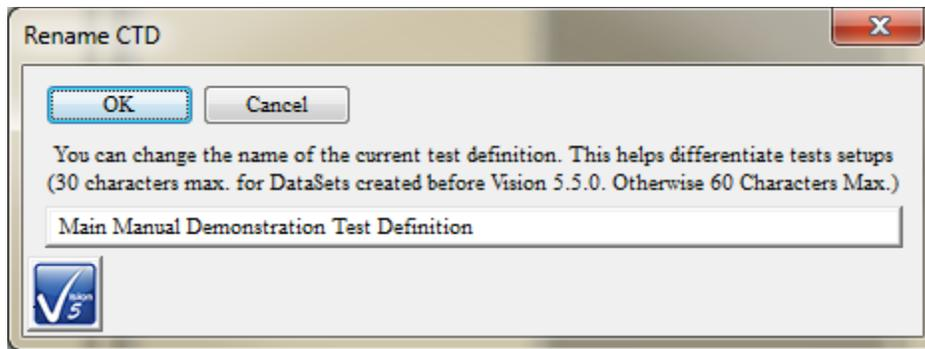

Figure 4 – CTD Naming/Renaming Dialog.
3. **Current Test Definition (CTD).** This is an experiment or Test Definition that is ready for execution (**Figure 3**) . Selecting DataSet-> Execute Current Test Definition (CTD) from the menu, or pressing <F1>, will initiate the operation of the programmed Test Definition contained in the CTD on the sample connected to the Precision Tester. The CTD is written by clicking on the Test Definition in the EDITOR with the left mouse button. With the button held down, the mouse is dragged into the open DataSet window. With the cursor in the DataSet window, the button is released. (The Test Definition in the EDITOR can also be moved to the CTD by selecting Editor-> Test Definition to Current DataSet from the menu or by right-clicking in the EDITOR window.) When the Test Definition is moved a dialog will open to allow the user to assign a name to the CTD (**Figure 4**). The name should uniquely identify the Current Test Definition. If a Current Test Definition exists in the DataSet, it will be overwritten by the new Test Definition. The configuration of each Task in the Current Test Definition can be reviewed by double-clicking on the Task in the CTD, opening its configuration dialog. This will be only a review as the dialog controls are disabled and cannot be adjusted. (**Figure 5**) The CTD can be repeatedly re-executed any number of times. When the DataSet is closed and reopened, even between executions of the Vision program, the CTD will be maintained. CTDs can be returned to the EDITOR or sent to the Customized Tests folder in the Library by selecting the appropriate option from the DataSet menu. A popup menu can also be used by selecting the Current Test Definition name in the DataSet Explorer, then right-clicking.